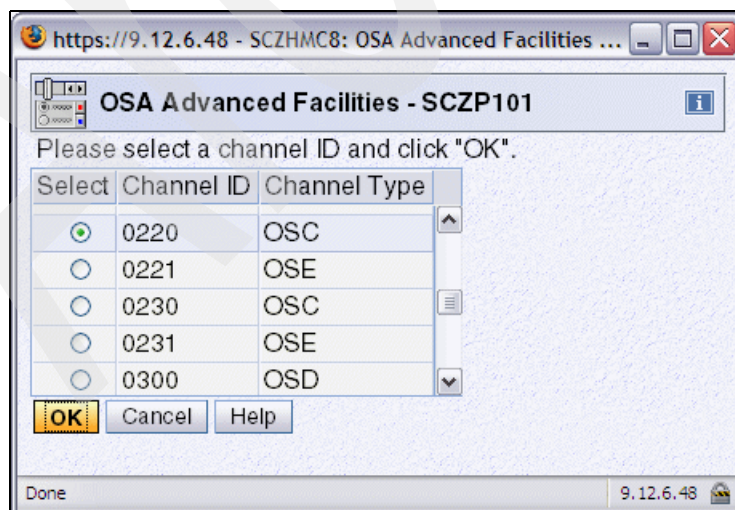

Figure 3-38 HMC - OSA Advanced Facilities (OSC Channel)
- Click the radio button for the Channel ID card that you want to export, then click **OK** (Figure 3-38).